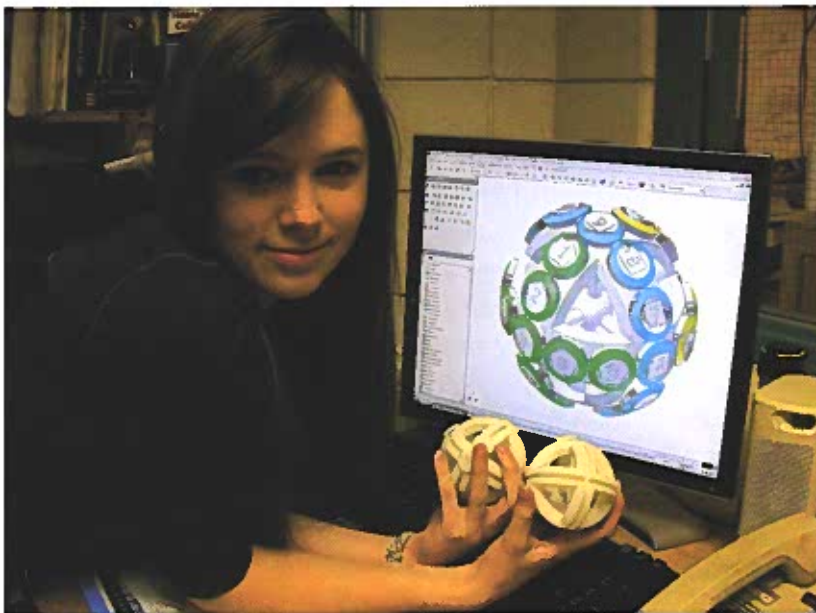

Figure 3-37. A student with her CAD file and 3D model of a three-dimensional puzzle she designed for the blind.
Specific 3D printing systems are often known by their output. For example, 3D printers that are used to create prototypes quickly during the design stage of product development are called *rapid prototyping (RP) systems*. See Figure 3-37. By using prototypes in real-life field tests, designers can better evaluate a product's strengths and weaknesses and avoid costly mistakes.